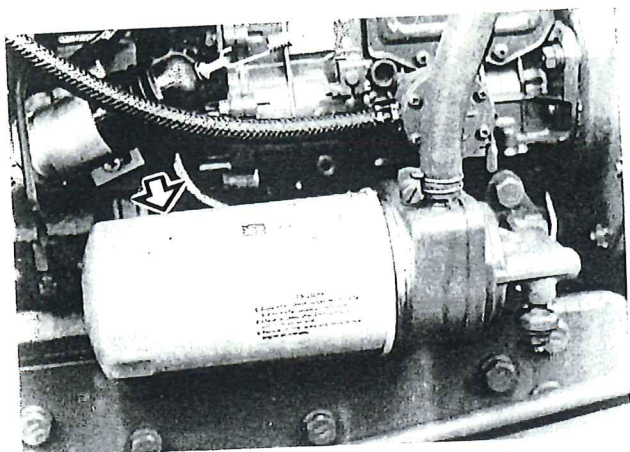

Figure 39 — Engine Oil Filter
2. Unscrew the oil filter, Figure 39, catching the used oil in a suitable container placed below the filter. Discard the filter.